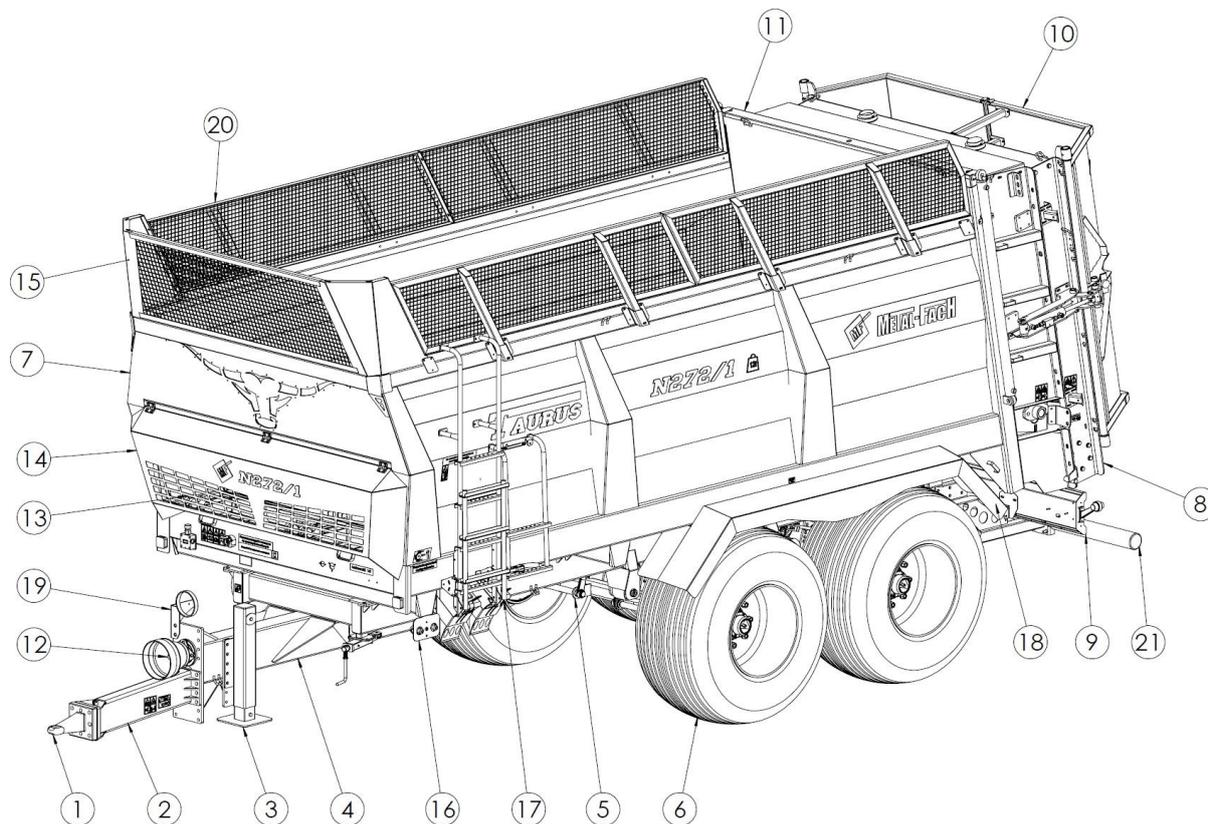

Figure 8. General design of the Manure Spreader:
The components of the spreader are shown in Figure 8. The main structural parts include a lower frame (4) with tandem spring-mounted suspension (5) on which the spreader body (7) is supported. A rigid hitch (2), equipped with a fixed drawbar eye (1), is used for connection with the tractor's lower or upper hitch. It is also possible to mount the eye for a rotary and ball drawbar. The hydraulic support foot (3) is attached to the drawbar to support the spreader, when it is not connected to the tractor, and to adjust the drawbar's height, during coupling. The foldable ladder (17) installed on the right-hand side of the hopper is used to